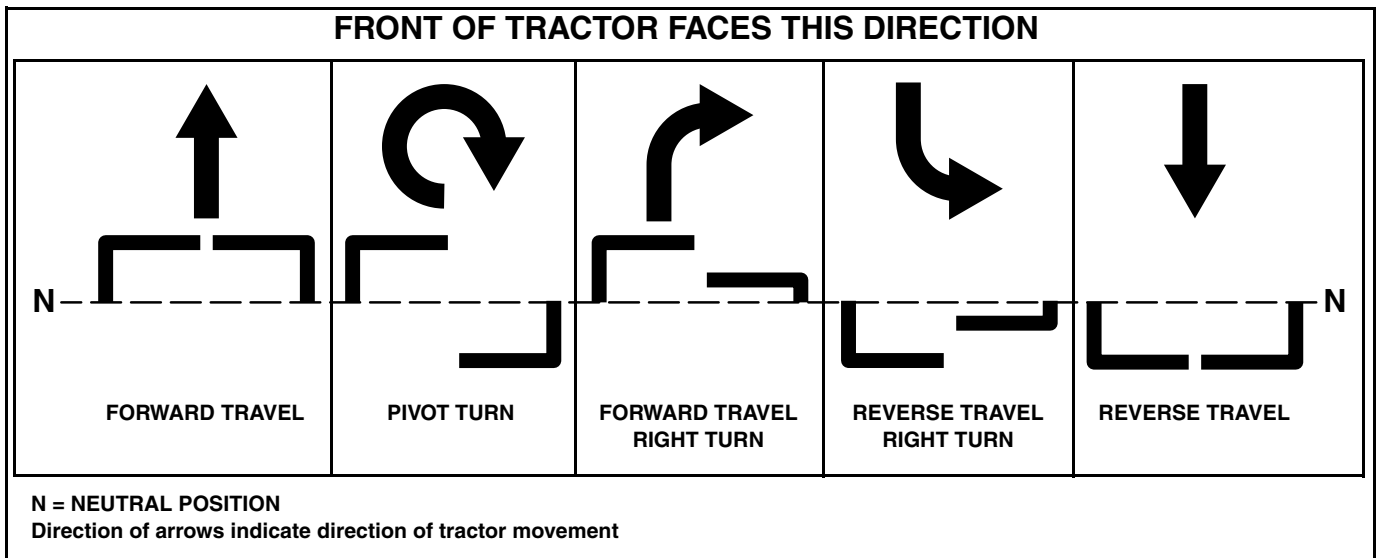

Figure 3-7
**To go forward**, push steering control levers forward an equal distance (Fig. 3-7).
**To go in reverse**, pull steering control levers rearward an equal distance (Fig. 3-7).
**To turn left**, move the right steering control lever farther forward from neutral than the left steering control lever. (Fig. 3-7)
**To turn right**, move the left steering control lever farther forward from neutral than the right steering control lever. (Fig. 3-7)
**To pivot turn**, move one steering control lever forward and the other steering control lever back of neutral. This will allow the drive wheels to counter-rotate. (Fig. 3-7)